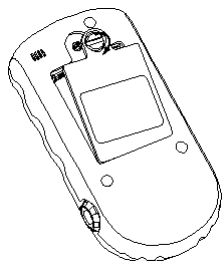

Figure 2
1) Open the rear panel with coin or an ordinary flat screwdriver, as shown in Figure 2.